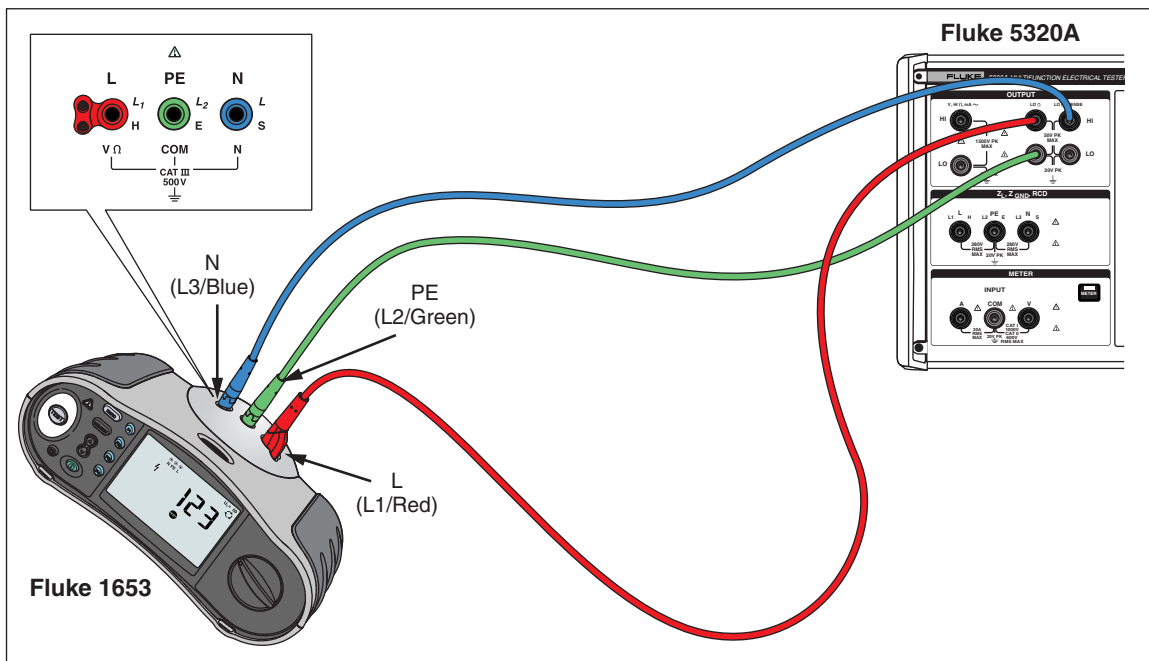

Figure 7-2. Earth Resistance Calibration Connections
2. Using Figure 7-2 for a reference, connect the UUT to the Calibrator's **LO $\Omega$  HI** and **LO** terminals as well as the **LO $\Omega$  Sense HI** terminal.